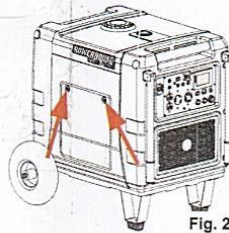

Fig. 2
1. Use a #2 Phillips screwdriver to remove eight (8) screws securing the control panel to the generator, and pull the panel outward.
2. Use a #2 Phillips screwdriver to remove the screws for the metal side panels (Fig. 2, red arrows—left metal panel shown). You must remove the right side panel for installation, but may also want to remove the left side panel to let more light in while you work.